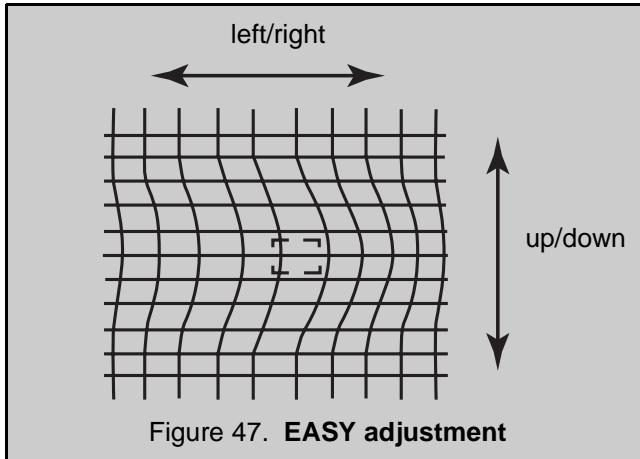

Figure 47. EASY adjustment
7. This mode affects a wide area around the cursor than other adjustment modes. See values on screen by pressing RECALL on remote (see Figure 47)